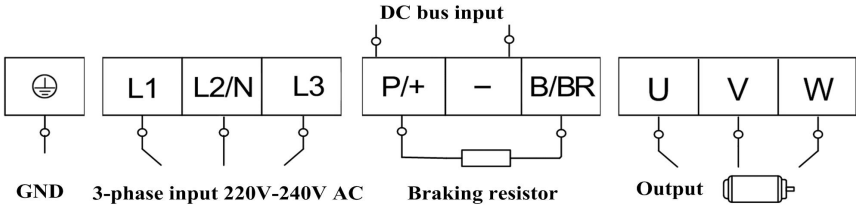

Fig 3-3 Power terminals sketch
2) Power terminals sketch of inverter with 3-phase 230V 0.4-5.5KW showed as below in Fig 3-3.